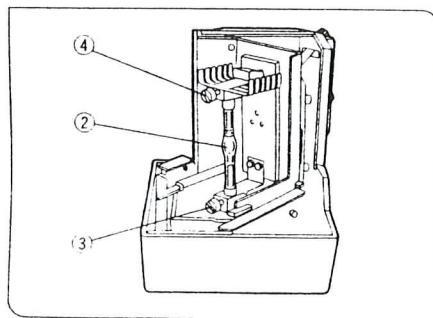

Fig. 6
3. Loosen the burner clamping screws ③ and ④ (Fig. 6) and remove the securing post. (For burner replacement, remove the used burner.)
4. With the + pole of the mercury burner ② facing downward, insert the pole into the opening and tighten the burner clamping screw ③. Then loosen the burner clamping screw ④. Insert the pole (marked UP) of the burner into the opening and tighten the burner clamping screw ④ (Fig. 6)